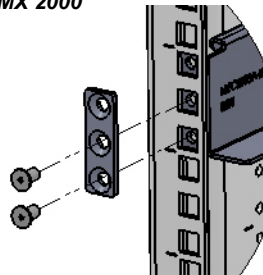

Figure 1-2 Detail of Front Rack Spacer Assembly for the RMX
(item no. 4) as shown in Figure 1-2.
- On the RMX 1500/4000 the center hole on the *Rack Spacer* must be left clear as it is required for fixing the RMX to the rack post. See Figure 1-2.
- On the RMX 2000 the top hole on the *Rack Spacer* must be left clear as it is required for fixing the RMX to the rack post. See Figure 1-2.